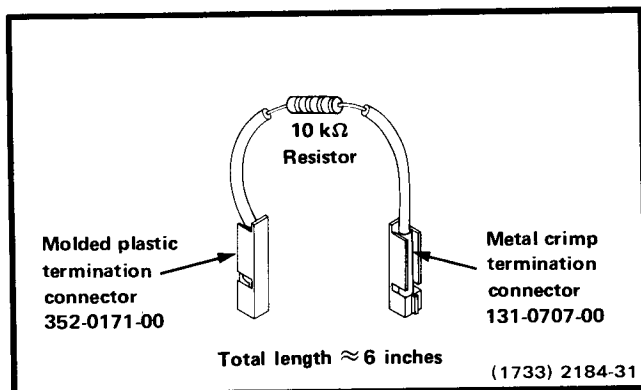

Fig. 4-16. Suggested construction of a 10 kΩ swamping resistor calibration fixture.
3. Install 10 kΩ swamping resistors (Fig. 4-16) across TP1720-TP1725, TP1760-TP1765, and TP1800-TP1805 (Fig. 4-15).